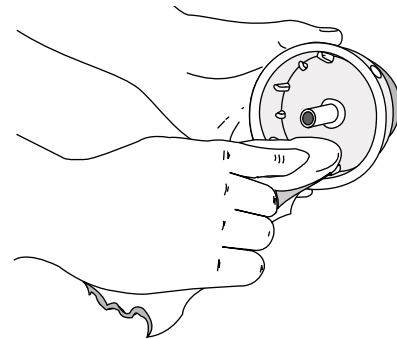

Fig. 33
4. Use a clean cloth to clean the the inner reel, spring, shaft, and inner surface of the outer spool (Fig. 33).